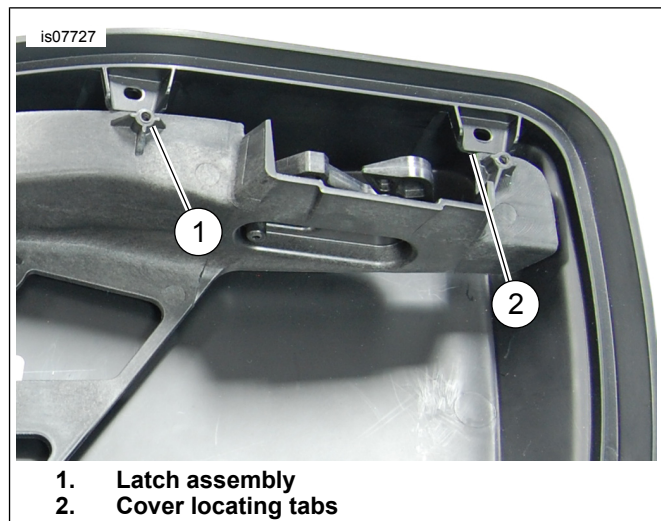

Figure 4. Install Latch Assembly
- See Figure 4. To install the latch assembly (1), pull the latch assembly towards the center of the cover to clear the cover locating tabs (2).